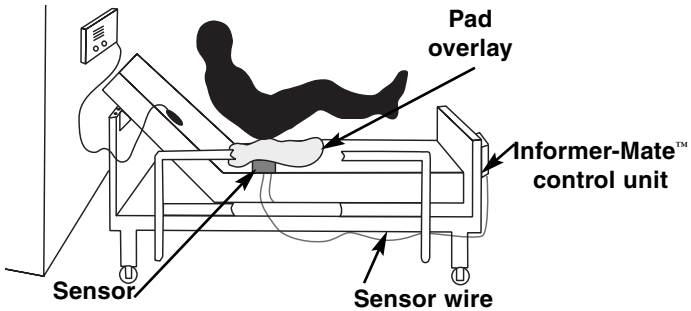

Figure 4
1. Place the bed sensor pad across the width of the bed and under any sheets, overlays or incontinence pads (**Figure 4**). Placement should be under the patient or resident's buttocks area.
3. Route the sensor pad cable from the sensor pad to the control unit. The cable will need to run from the top of the mattress to the underside of the bed and up the headboard, footboard, or rail of the bed (**Figure 4**). Make sure the cable lies freely and does not interfere with handrails or moving parts of the bed.